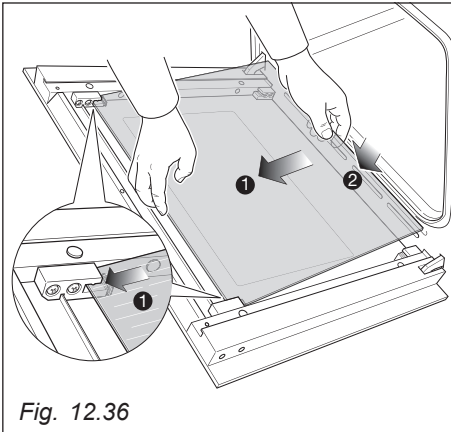

Fig. 12.36
- Gently insert the top edge of the pane into the top clamps (arrow 1 in fig. 12.36), then lower the pane and insert the bottom edge into the bottom clamps (arrow 2 in fig. 12.36); and then slide the pane into position (fig. 12.37).